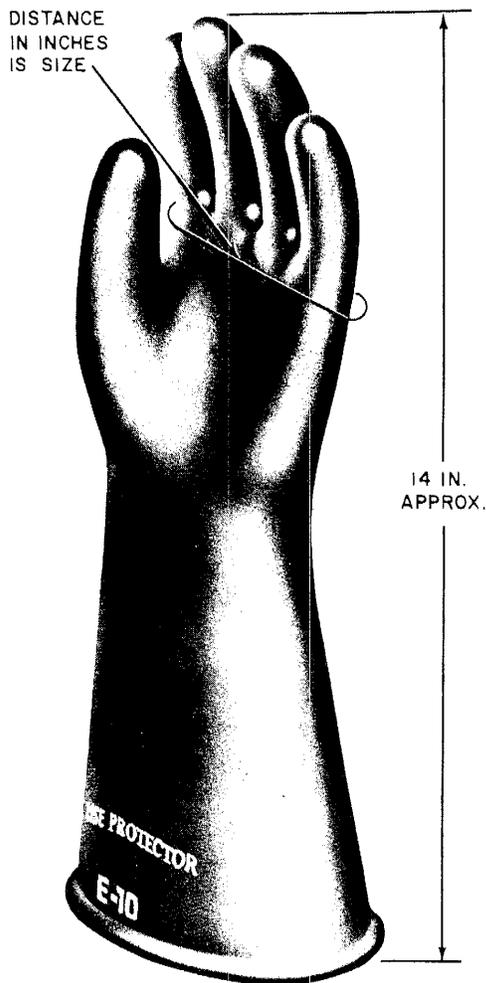

Fig. 1—E Insulating Glove
**2.01** All types of insulating gloves are of the gauntlet type and are made in four sizes: 9-1/2, 10, 11, and 12. The size indicates the approximate number of inches around the glove, measured midway between the thumb and finger crotches. The length of each glove, measured from the tip of the second finger to the outer edge of the gauntlet, is approximately 14 inches (Fig. 1).